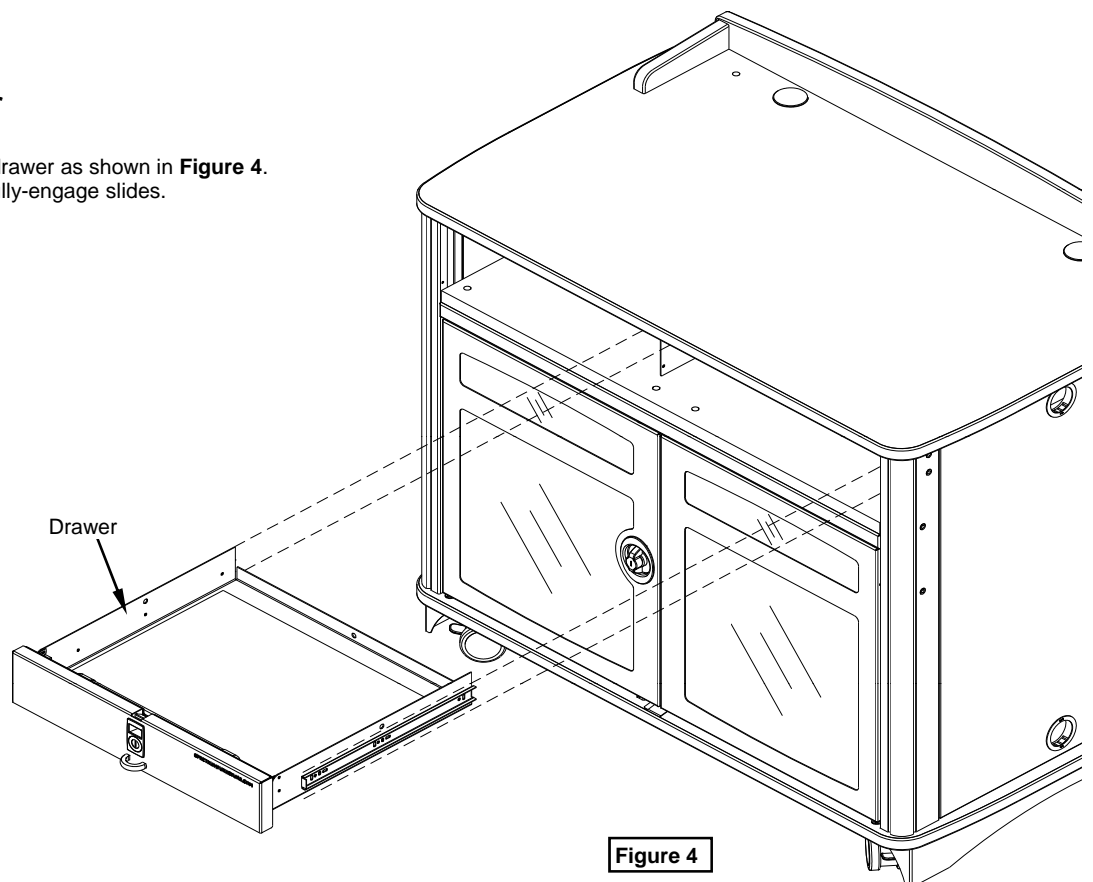

Figure 4
- A. Align Drawer slides and insert drawer as shown in **Figure 4**.